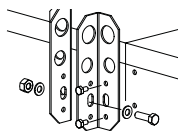

Fig. 1
- **Wet sections.** Attach the lift brackets to the top of the blower module and wet module using the included 1/4-20 bolts. See Fig. 1. Attach the connector brackets in like manner near the bottom of the unit. Bring the two sections together and secure them using the provided 3/8-16 nut, bolt and washers.